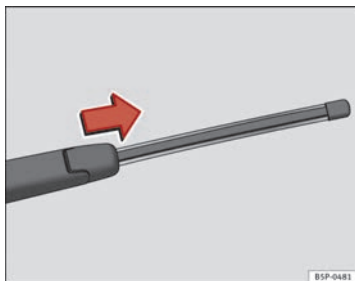

Fig. 139 Removing the rear window wiper blade
- Lift the wiper arm away from the glass ⇒ Fig. 139.
- Slide the blade adapter in the direction of the arrow and remove the blade ⇒ Fig. 139.